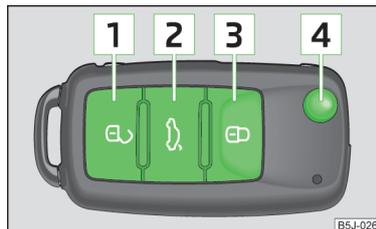

Fig. 33
- > Press button **1** » Fig. 33.
- > Press button **3** » Fig. 33.
- > Press button **3** » Fig. 33 twice within 2 seconds. Further information » page 45.
- > Press button **2** » Fig. 33. Further information » page 50.
- > Press button **4** » Fig. 33.
- > Press the button **4** » Fig. 33 and fold in the key bit.
The turn signal lights flash twice as confirmation that the vehicle has been unlocked. If the vehicle is unlocked using button **1** » Fig. 33 and none of the doors or the tailgate are opened within the next 30 seconds, the vehicle is automatically locked again and the safe securing system or anti-theft alarm system is reactivated. This function is intended to prevent the car being unlocked unintentionally. ▶